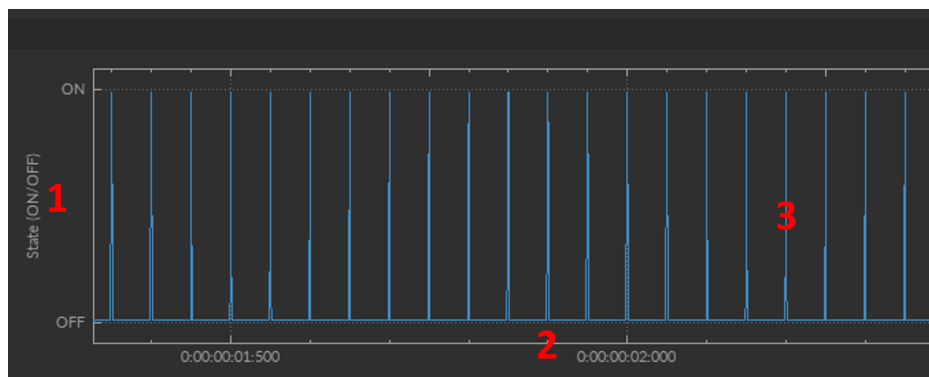

Figure 9.38: Digital I/O(s) View - Graph
1. The **Y-axis** (Fig. 9.38, 1) displays the Digital **State** of the channel, which can be either ON (1) or OFF (0).
2. The **X-axis** (Fig. 9.38, 2) displays the time in d:hh:mm:ss:zzz.
3. The **Trace** (Fig. 9.38, 3) can be edited by selecting the **Graph** button in Section 9.5.1.1, no. 3.